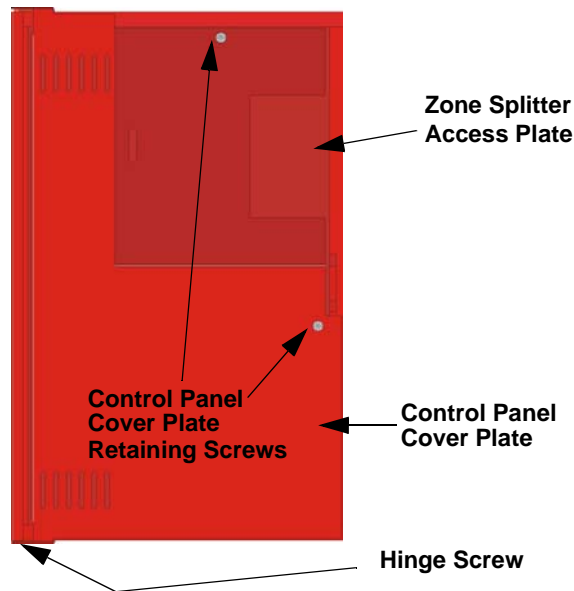

Figure 3-5 View of Cabinet With Cover Plate in Place
2. Remove the two cover plate retaining screws, then open the control panel cover plate. See Figure 3-5.
2. To access cabinet interior, open dead-front panel by removing the upper screw and the mid-door retaining nut. See Figure 3-5.